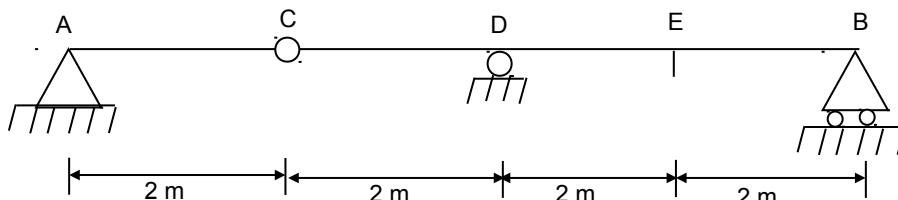

Figure 1
Q.1 Draw influence line diagrams for moment at E , reaction at D and shear at C in the Figure 1.